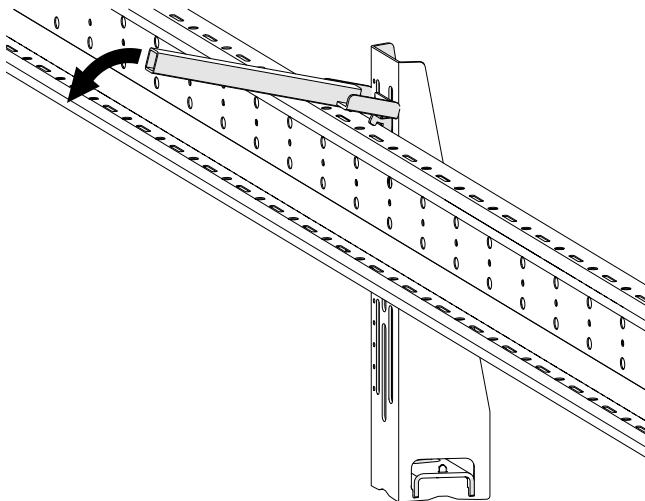

Fig. 24: Press down retaining collar of system holder
3. After final positioning of the support profile rails, press the retaining collar completely down with the locking tool (Order No.: 08-V015-0458) (see Fig. 24 and Fig. 25).